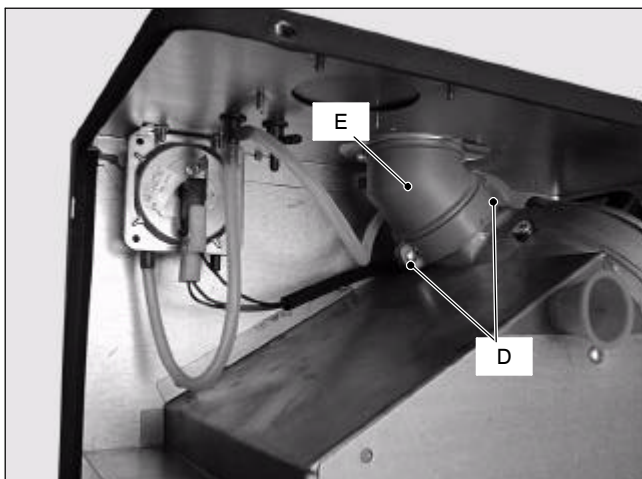

Fig. 71
- 4 Unscrew the screws *D* and remove the clamp *E* (Fig. 71).